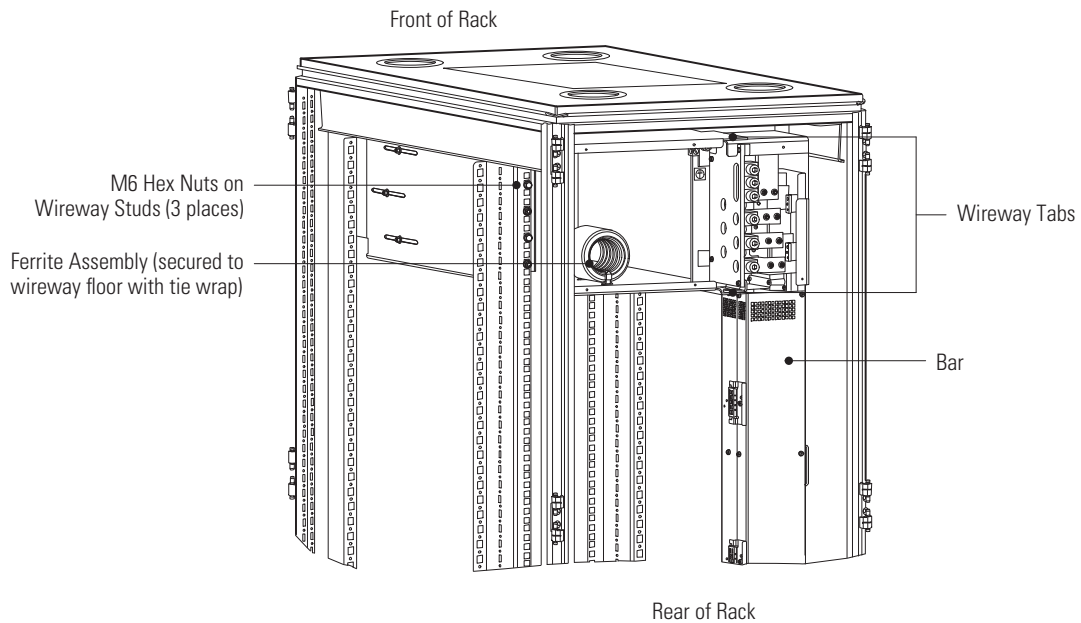

Figure 14. Ferrite and Bar Placement
4. Install an M6 hex nut onto each of the three wireway studs to secure the wireway to the rear of the rack. Install the first stud in the third hole location from the top. Do not tighten the nuts. Figure 14 shows the nuts installed.
10. Place the ferrite assembly on the floor of the wireway and secure with the supplied tie wrap. Loop the tie wrap through both attachment sites on the wireway floor and through the ferrite assembly. See Figure 14.
12. Place the bar in the rack as shown in Figure 14.
NOTE The bar can rest on a support until secured in place. After complete installation, the bar will be secured to the rack and wireway as shown in Figure 14.
NOTE Verify that the bar is secure as shown in Figure 14. The sheet metal at the top and bottom of the of the terminal block assembly should fit between the wireway tabs.